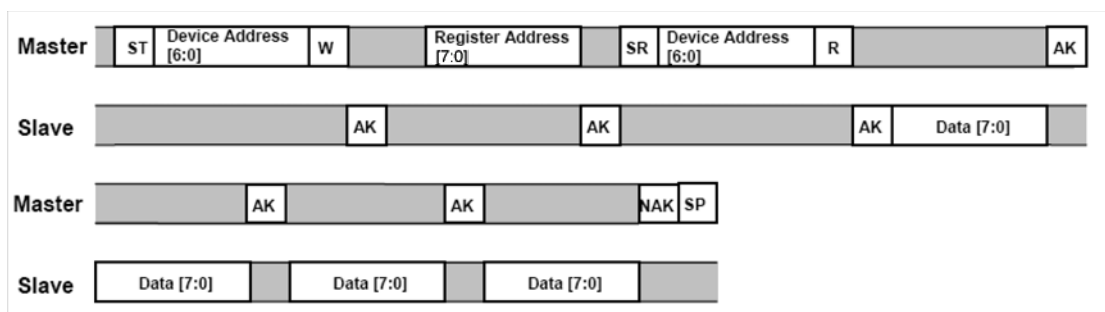

Figure 8. Multiple Bytes Read - The Master is reading multiple sequential registers from the MMA7456L
The MMA7456L automatically increments the received register address commands after a read command is received. Therefore, after following the steps of a single byte read, multiple bytes of data can be read from sequential registers after each MMA7456L acknowledgment (AK) is received until a NACK is received from the Master followed by a stop condition (SP) signalling an end of transmission. See Figure 8.